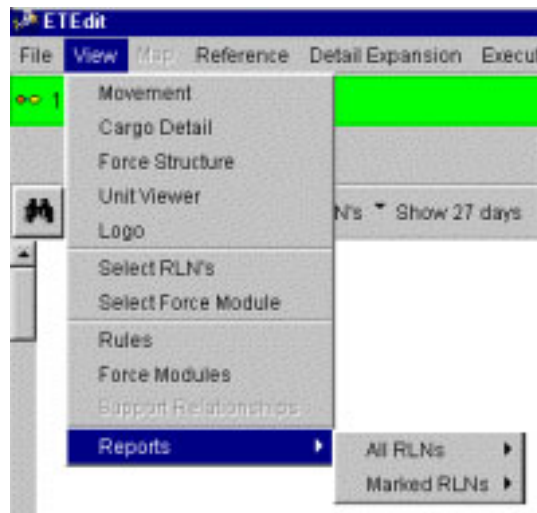

Figure 5.140 ETEdit View>Reports Submenu
4. On the ETEdit (main) window, on the View menu, click Reports. The Reports submenu is displayed (Figure 5.140).